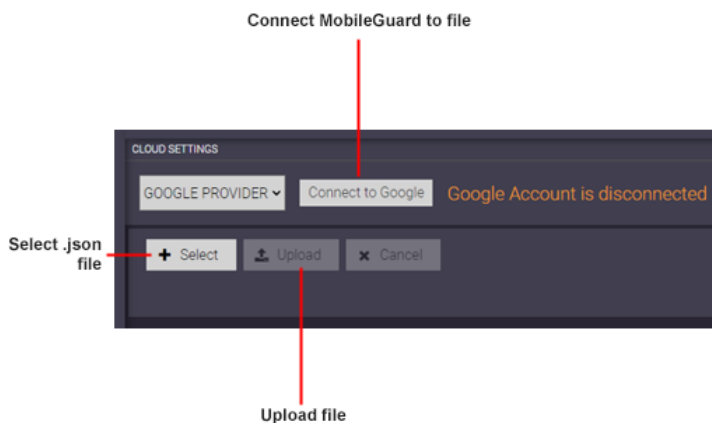

Figure 169 MobileGuard™ Cloud Settings Screen
- 1 On the sidebar, select **Cloud Settings**. If there is no connected Google account, the configuration screen looks like Figure 169.